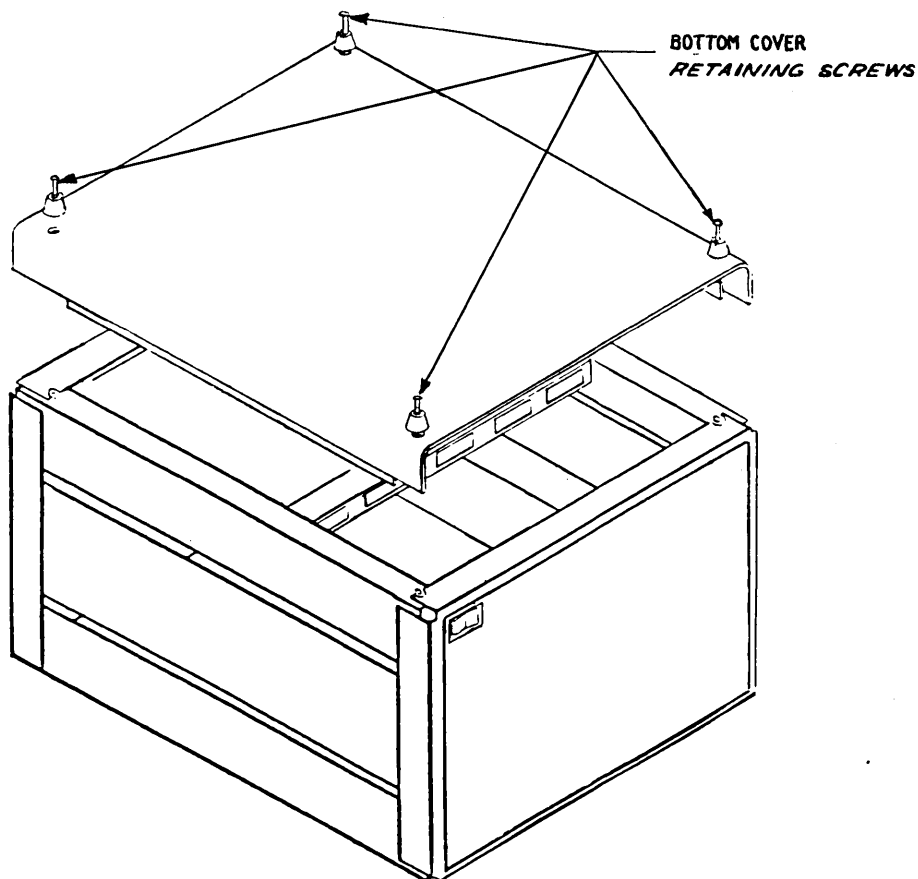

Figure 4-17. Bottom Cover Retaining Screw Locations
4. Remove four screws securing the bottom cover to the chassis and remove bottom cover. (Refer to Figure 4-17.)